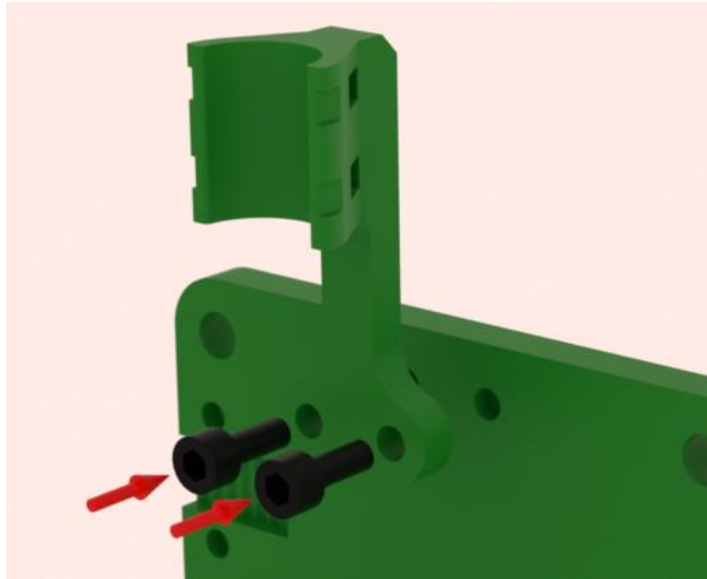

Figure 34: Tubing holder installation
- Install the tubing holder with two M3x8mm bolts as shown in Figure 34.